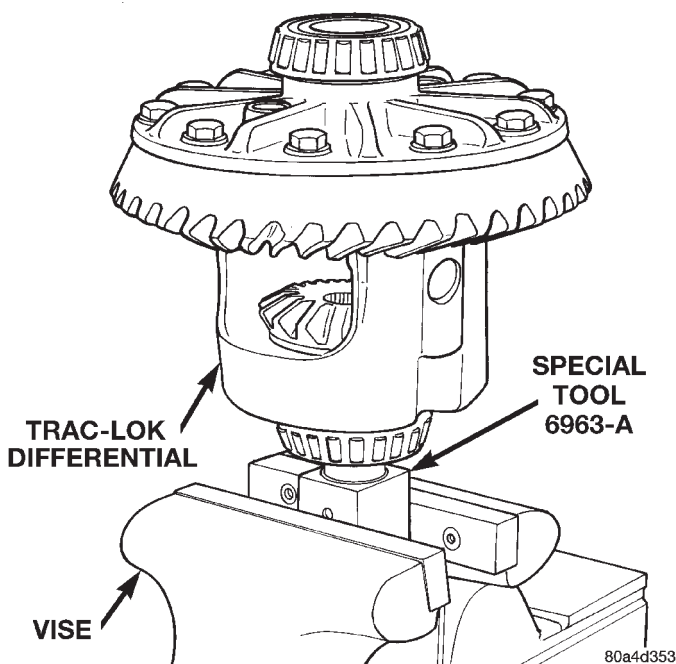

Fig. 33 Side Gear Holding Tool 6963-A
- (1) Remove differential case from axle housing.
- (2) Clamp Side Gear Holding Tool 6963-A in a vise.
- (3) Position differential case on the holding tool (Fig. 33).
- (4) Place shop towels around differential to cover vise in order to prevent damage to ring gear when removed.
- (5) Remove and discard the bolts holding the ring gear to differential case.
- (6) Using a soft hammer, drive ring gear from differential case.